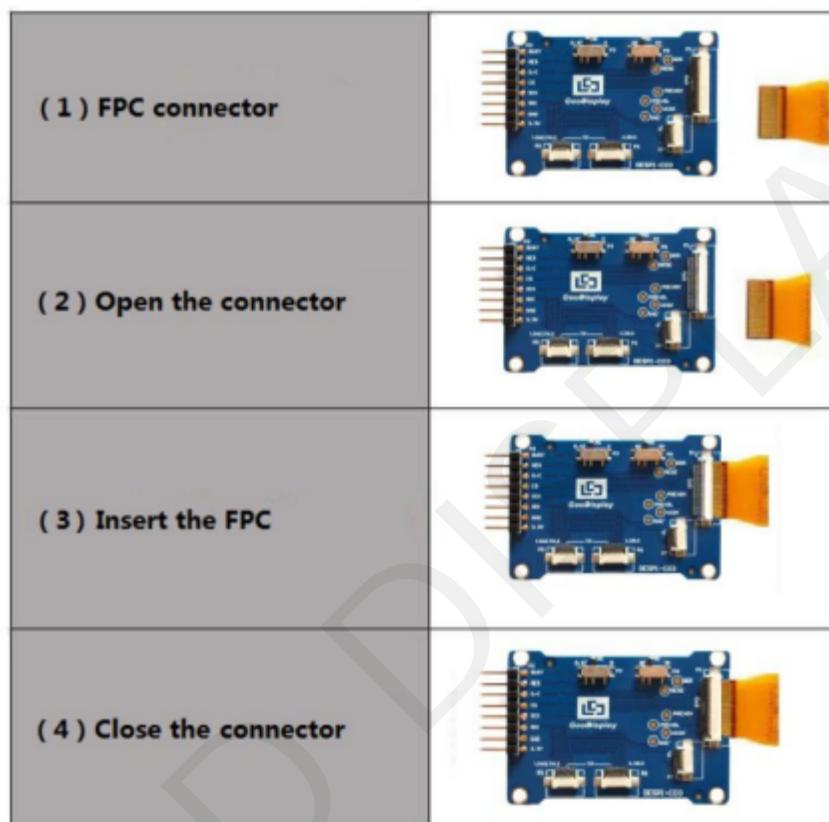

Figure 5 : Connection between DESPI-C03 and e-paper
- 3) Connect the e-paper FPC to DESPI-C03 as shown in Figure 5. (Pay attention to the direction of the e-paper.) And set P8 to NC.
DESPI-C03 supports 3.3 V powered front light panel driving, the corresponding interface is P7 as shown in Figure 5. The pin definitions are as follows: 3.3V (1,2), NC (3,4), GND (5,6). The power supply of front light panel must be divided from the power supply of e-paper, otherwise it may affect the display of e-paper.